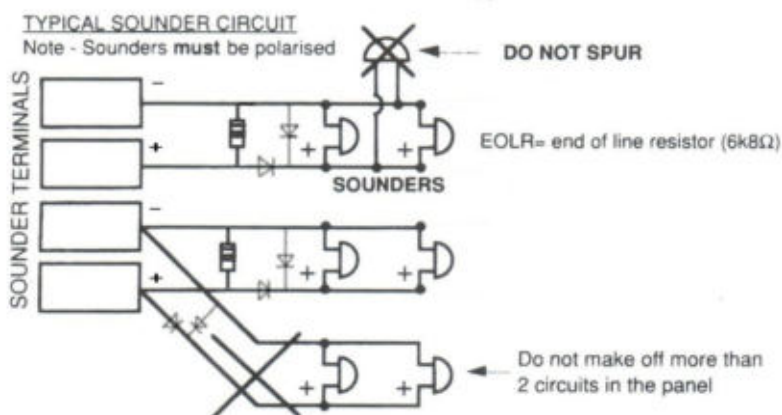

Figure 5. Wrong connection of sounders
- 2.1.6 Connect the field wiring: See Figure 5.